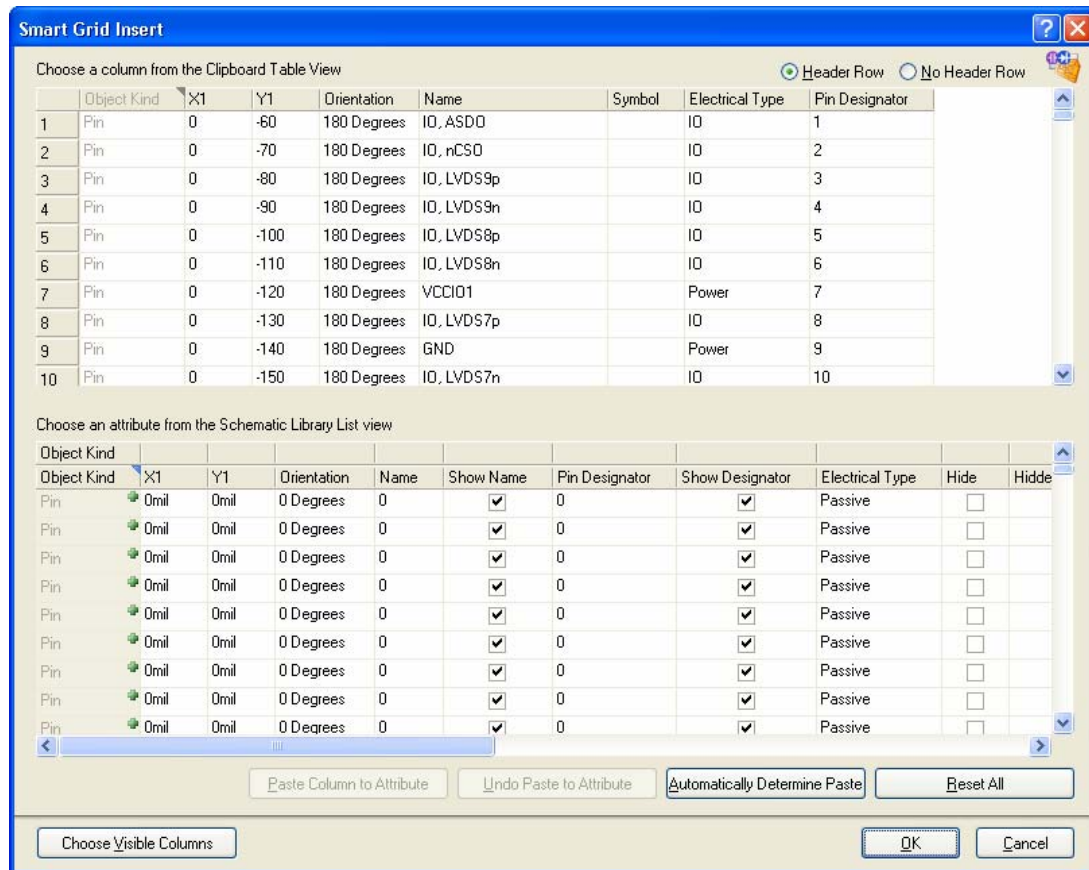

Figure 11. Smart grid insert dialog that comes up upon pasting.
10. The Smart Grid Insert dialog will open (Figure 11). This dialog is used to map spreadsheet columns to Altium Designer pin properties. Since the column names have been pre-defined in Excel and were copied onto the clipboard, you can use the **Automatically Determine Paste** button. If the column names are not known, individual columns can be mapped one-by-one, using the **Paste Column to Attribute** button to link them.